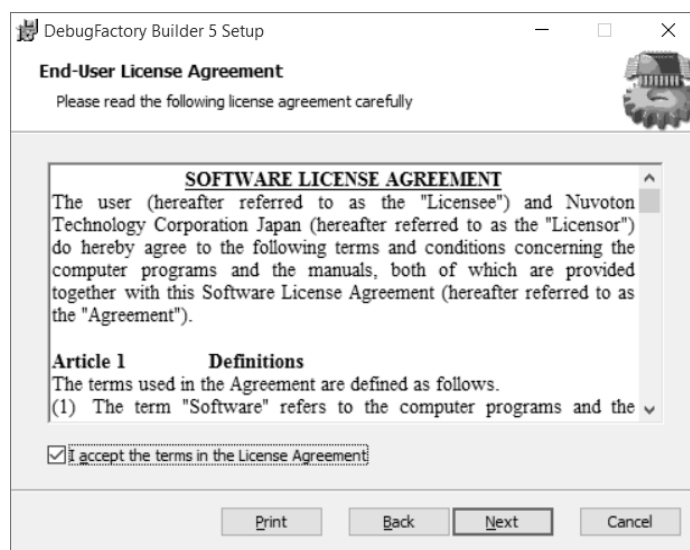

Figure 1.1.3 Licence agreement of DebugFactory Builder 5
3. The dialog shown in Figure 1.1.3 appears. Confirm the software license agreement, and click <Next>.